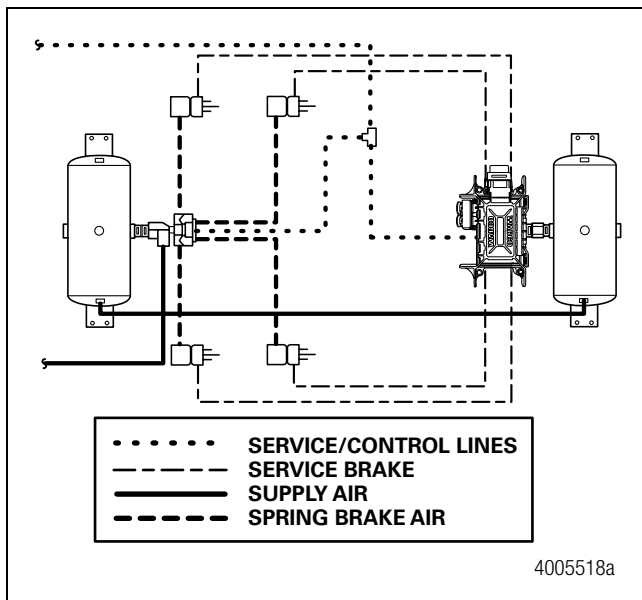

Figure 4
- Connect the air delivery lines from the service chambers to the ECU/single modulator valve assembly Port 2 (3/8-inch NPTF). Figure 4.
- Connect the brake service control line to the ECU/single modulator valve assembly Port 4 (3/8-inch NPTF). Figure 4.